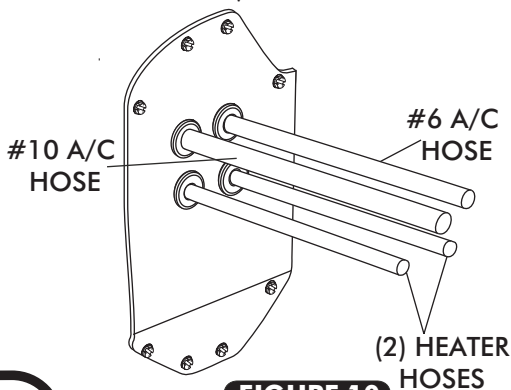

FIGURE 10
- ❑ ROUTE A/C AND HEATER HOSE THROUGH A/C BLOCK-OFF PLATE AND KICK PANEL FRESH AIR CAP AS SHOWN IN FIGURE 10 AND 10b, BELOW.